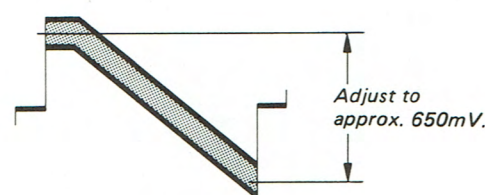

Fig. 27-2.
5. Set the signal generator to the 20% position, and adjust the output LEVEL knob so that the oscilloscope output waveform is 650mV. (See Fig. 27-2.)